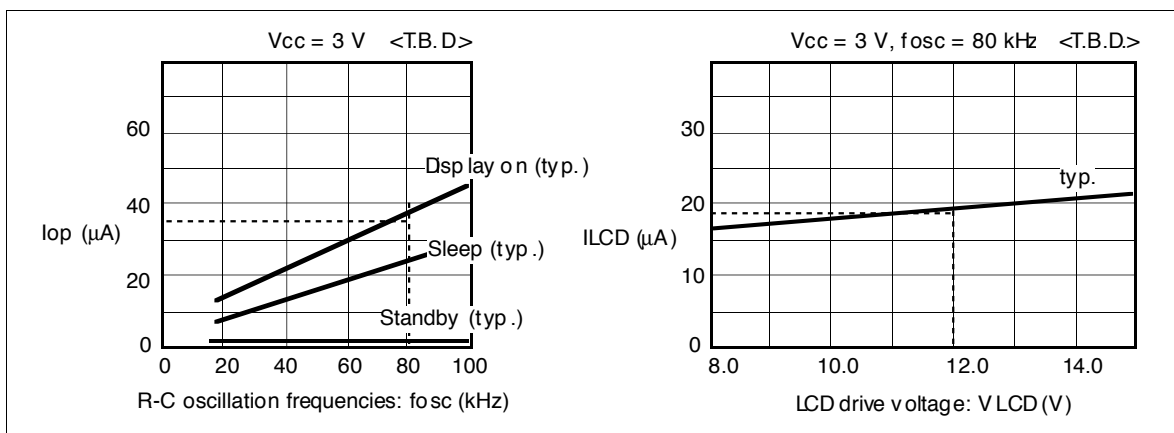

Figure 45 Relationship between the Operation Frequency and Current Consumption
8. The following shows the relationship between the operation frequency (fosc) and current consumption (Icc) (figure 45).